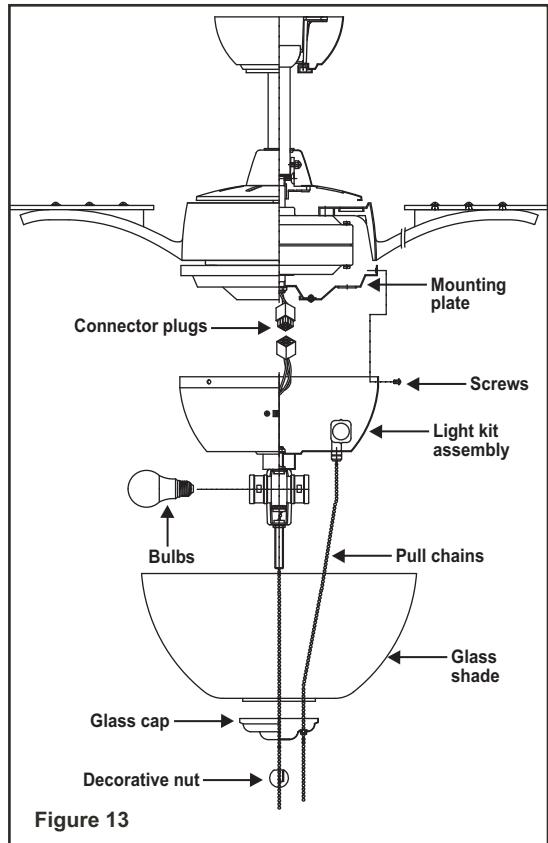

Figure 13
2. Carefully push all wires back into the switch housing, then install the light kit assembly onto the mounting plate with 4 screws provided. Be sure to tighten all screws. (Fig. 13)
5. Raise the light kit shade to the fitter and secure tightly with the glass cap and decorative nut. (Fig. 13)